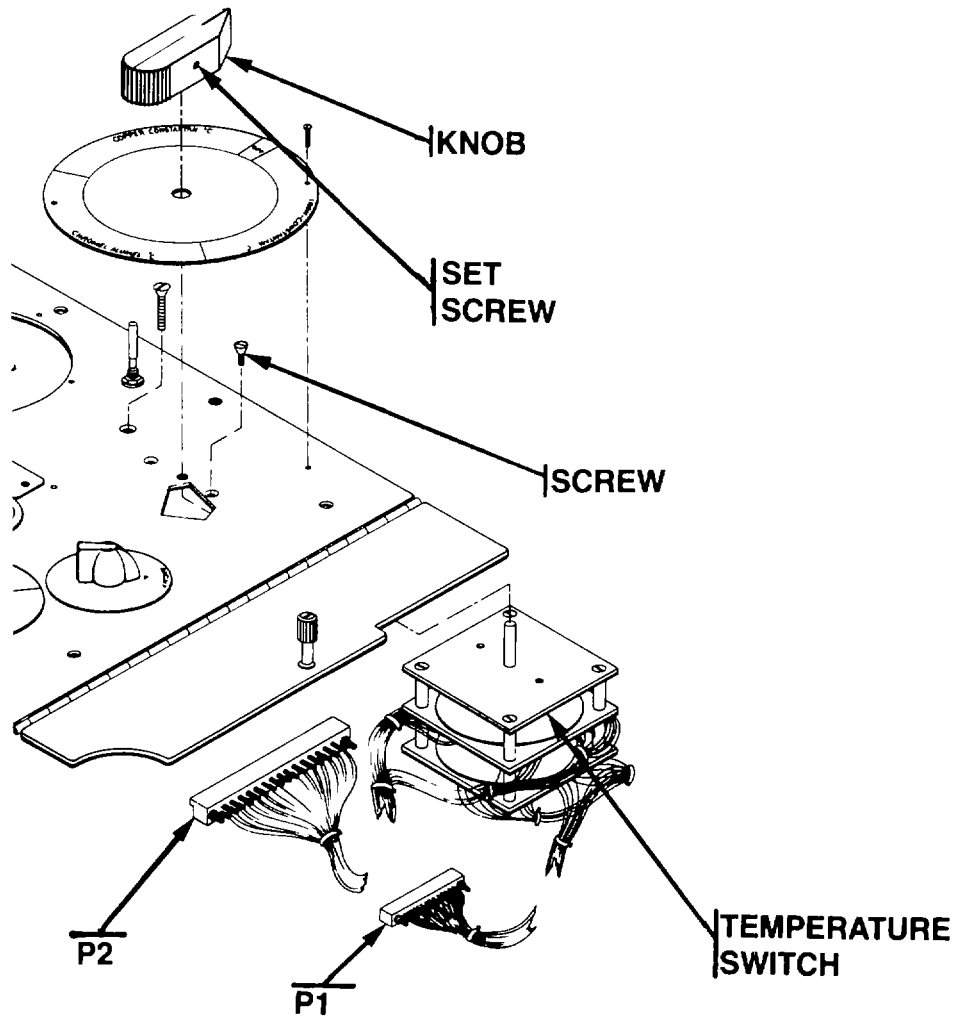

Figure 3-11. Instrument Panel Switch Assembly
- (1) Replace entire switch assembly with new one, installing new plugs P1 and P2 and securing control with two machine screws (See Figure 3-11).
- (2) Install instrument panel in case, aligning eight screw holes.
- (3) Use medium screwdriver to secure panel with eight screws.